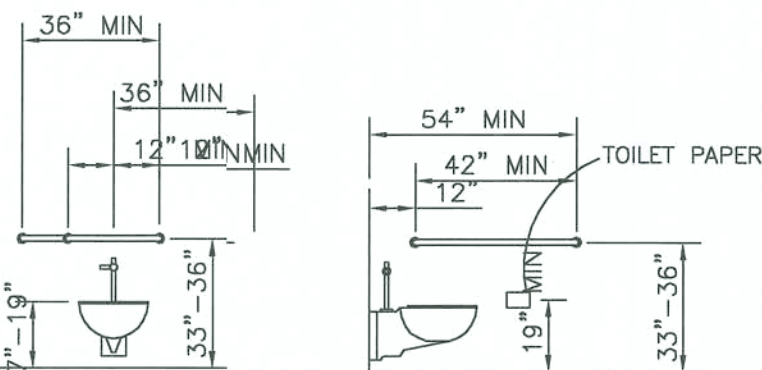

FIG. 29
THE HEIGHT OF WATER CLOSETS SHALL BE (17) SEVENTEEN INCHES TO (19) NINETEEN INCHES, MEASURED TO THE TOP OF THE TOILET SEAT (SEE FIG. 29(b)). SEATS SHALL NOT BE SPRUNG TO RETURN TO A LIFTED POSITION.
GRAB BARS FOR WATER CLOSETS NOT LOCATED IN STALLS SHALL COMPLY WITH 4.26 AND FIG. 29. THE GRAB BAR BEHIND THE WATER CLOSET SHALL BE (36) THIRTY-SIX INCHES MINIMUM.